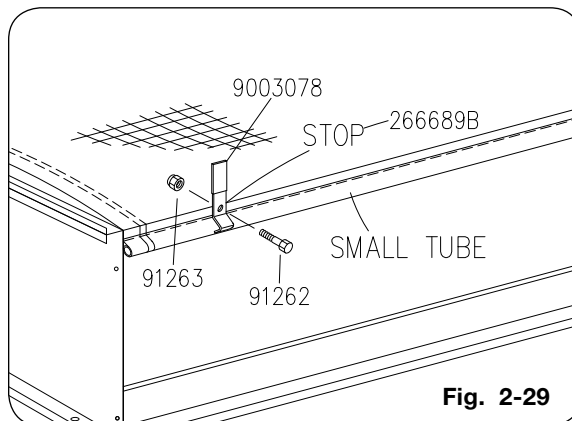

Fig. 2-29
12. Using an appropriate lifting device rated at a minimum of 250 lbs., position the tarp on top of the left side of the wagon. Hand roll the tarp into open position. Place the 1 1/8" stationary tube side of the tarp on top of the left side of the box, centered from front to back of box. BE CAREFUL NOT TO LET THE TARP ROLL OFF OF THE BOX. Assemble the tarp and stops (266689B) (with caps) to the left side boards by poking a hole through the tarp and using flange screws (91262) and flange nuts (91263). Assemble the center stop through the bow weldment, the front and rear stops should be 1 foot in from the ends of the wagon. See Fig. 2-29.